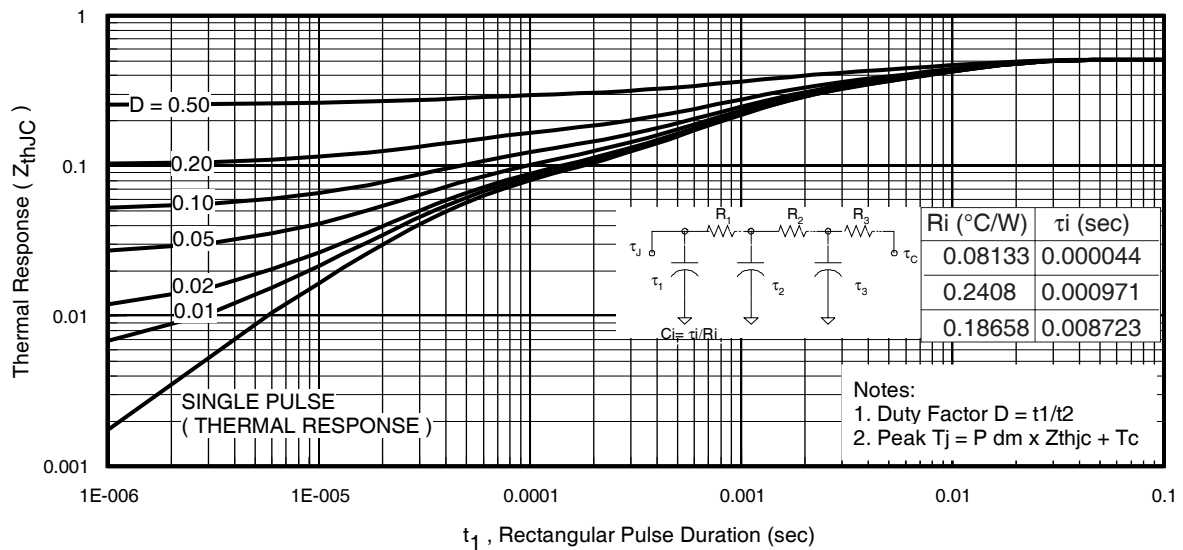

Fig 11. Maximum Effective Transient Thermal Impedance, Junction-to-Case
- ① Repetitive rating; pulse width limited by max. junction temperature. (See fig. 11).
- ② Limited by T_{Jmax} ; starting $T_J = 25^\circ\text{C}$, $L = 0.10mH$, $R_G = 25\Omega$, $I_{AS} = 75A$, $V_{GS} = 10V$. Part not recommended for use above this value.
- ③ Pulse width $\leq 1.0ms$; duty cycle $\leq 2\%$.
- ④ $C_{oss \text{ eff.}}$ is a fixed capacitance that gives the same charging time as C_{oss} while V_{DS} is rising from 0 to 80% V_{DSS} .
$Z_{thJC}(D, t_{av})$ = Transient thermal resistance, see figure 11)